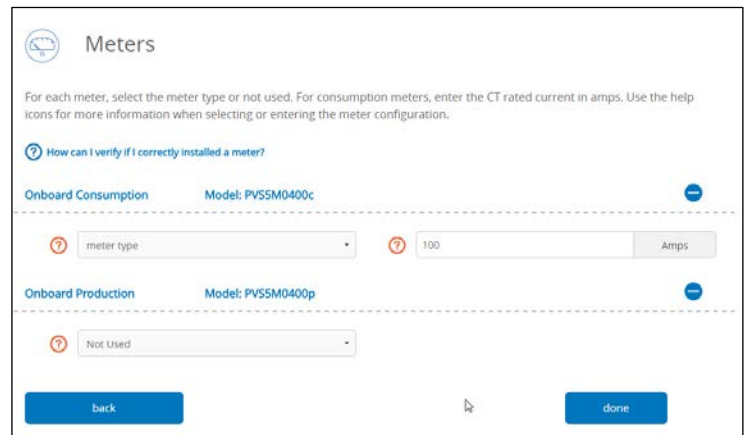

Fig. 39
1. Select the consumption meter type from the dropdown (Fig. 39):
2. Enter the onboard consumption meter CT rated current in the Onboard Consumption field labeled **Amps** (Fig. 39). The CT rated current is the sum of the CT values per phase. For example, if you installed:
3. Select the production meter type from the dropdown (Fig. 39):